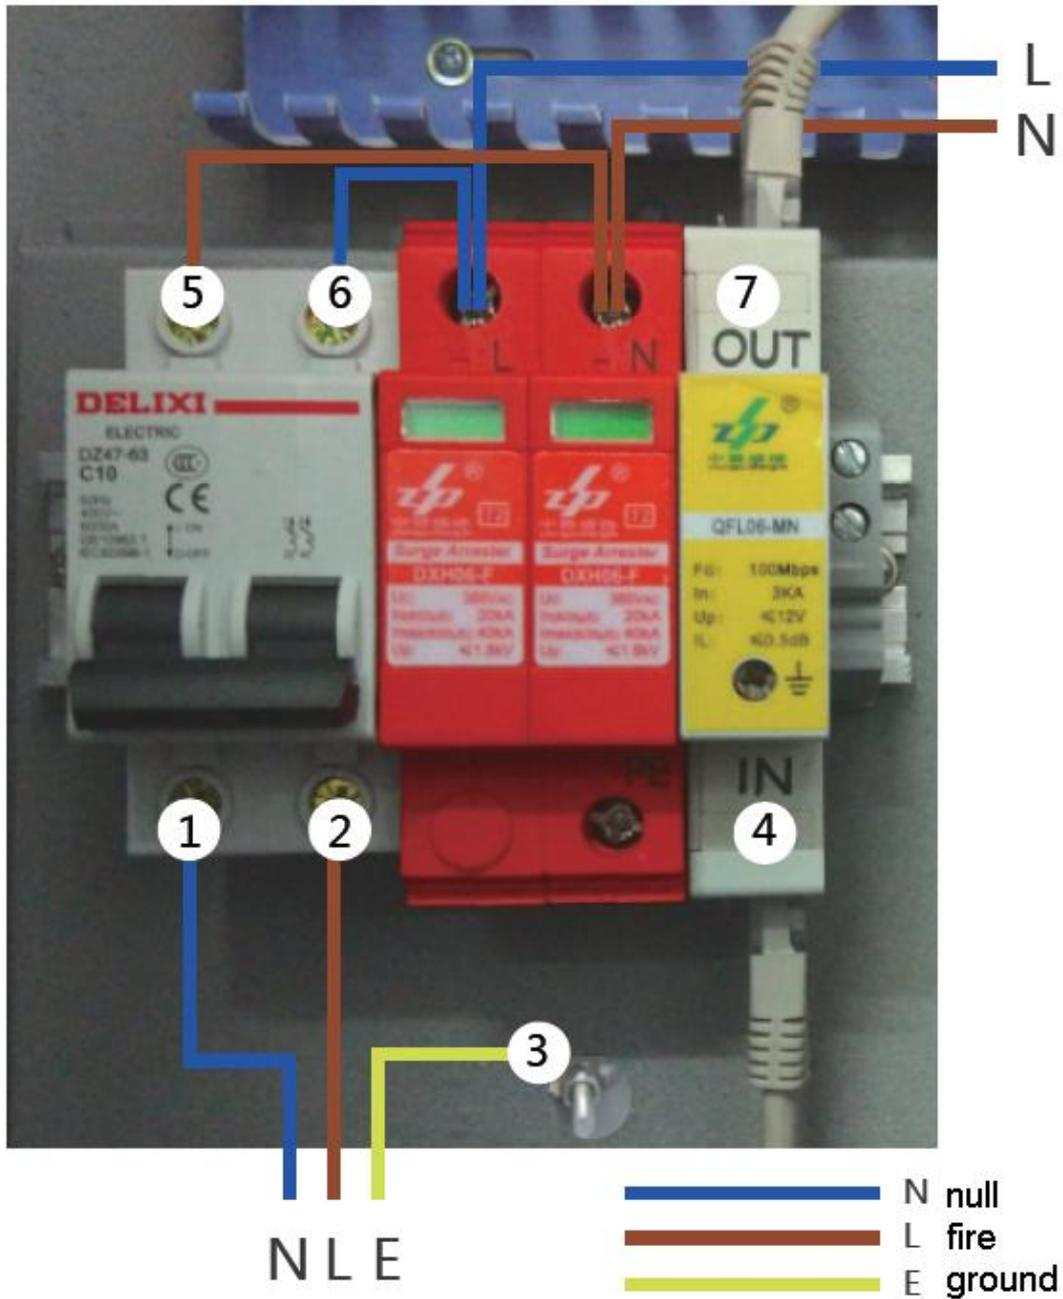
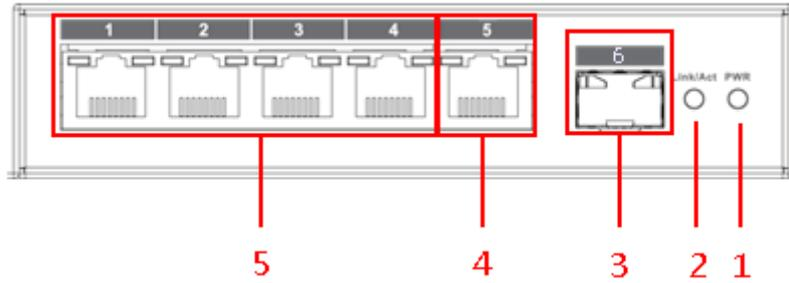

Figure 5-1
Figure 5-2
Connect power to no. 1 and 2, no. 3 is GND. Please well connected them, see Figure 5-1.
- Wired input: If paved is wired line, Connect external network to Figure 5-1 IN port (no. 4), and then pull one network cable from Figure 5-1 OUT port (no.7) to Figure 5-2 fiber port (no.3).